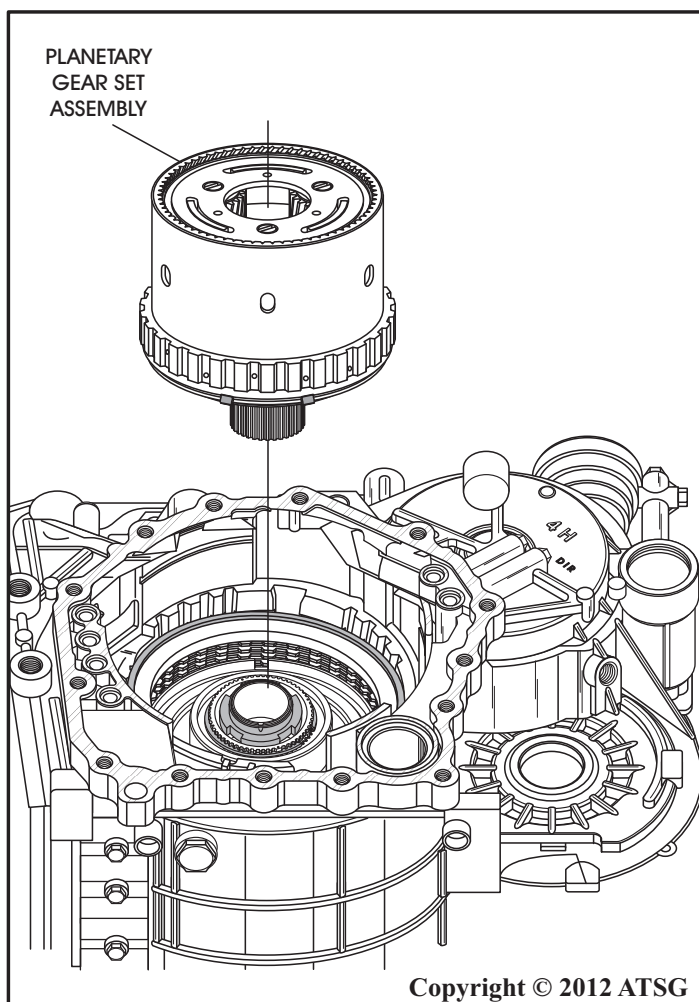

Figure 89
71. Remove the planetary gear set and low sprag assembly (OWC-1), as shown in Figure 89, and set aside for the component rebuild section.